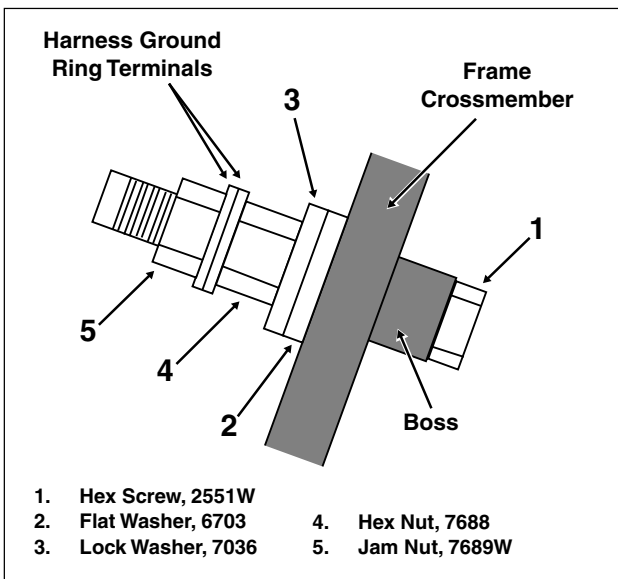

Figure 8-156. Install New Frame Ground Stud
4. Obtain five parts shown in Figure 8-156.